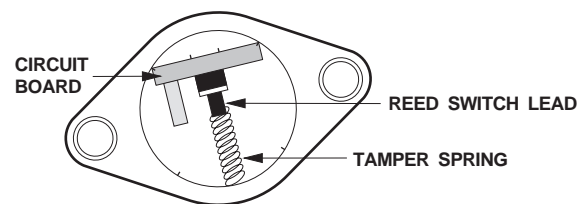

Figure 4. Internal Sensor Components
- 6) Using a needle-nose pliers, remove the circuit board from the sensor tube (see Figure 4). To avoid static damage to the board, set the board on a nonmetallic surface.
- 8) Push the circuit board back into the sensor tube. Make sure the tamper spring is not bent (see Figure 4).